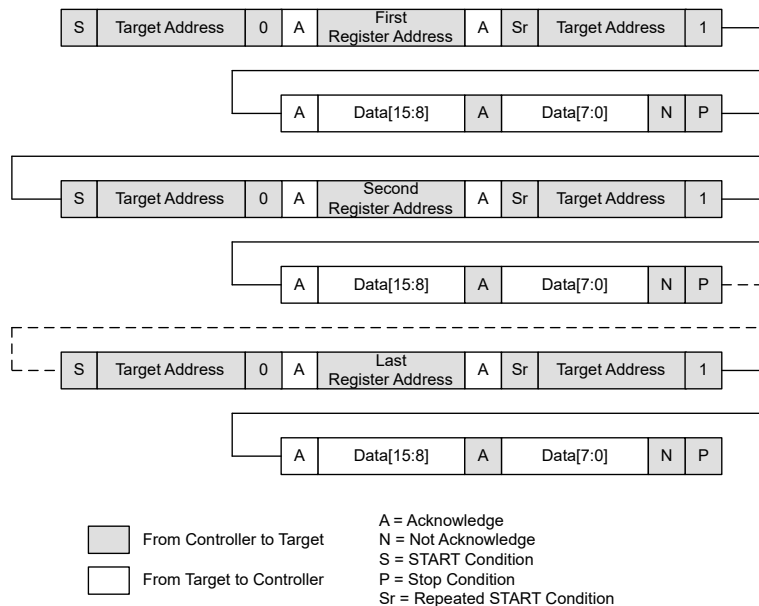

图 7-25. Read Multiple Registers Using the *Reading Single Word From Any Register Method*
7.5.1.5.4 Reading Multiple Registers (图 7-24 and 图 7-25)